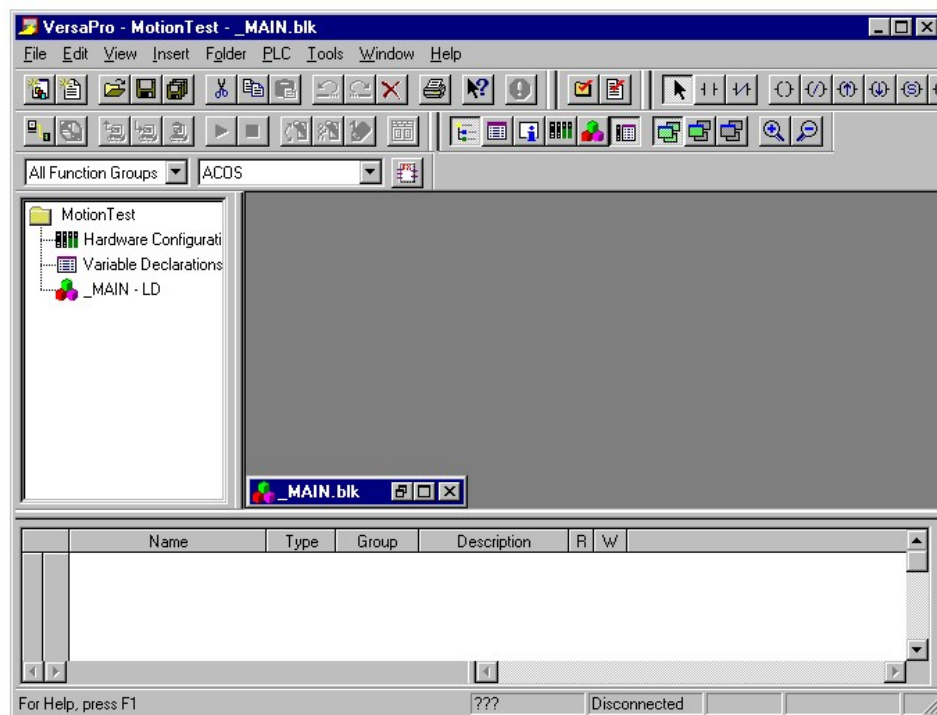

Figure 2-20. New Folder VersaPro Main Screen
- C. Click the Finish button to create the new folder. The resulting VersaPro display is shown in Figure 2-20.